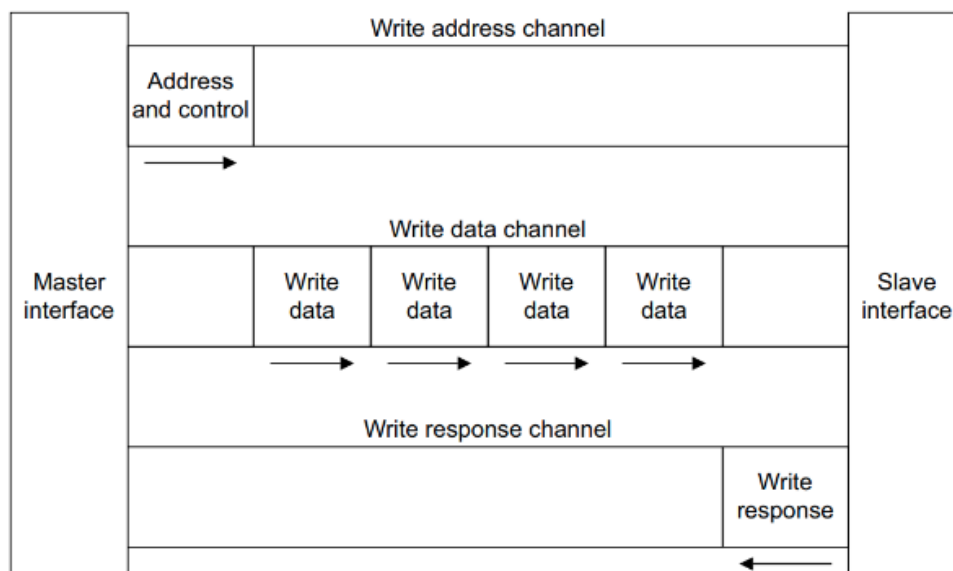

Figure 7. Channel architecture of writes
Figure 7 shows how a write transaction uses the write address, write data, and write response channels. Similar to a read, the master device sends the address and control bits. Then the master device sends the data on the write data channel and the slave device sends a response.
- A write data channel to transfer data from the master to the slave (Figure 7). In a write transaction, the slave uses the write response channel to signal the completion of the transfer to the master (Figure 7).